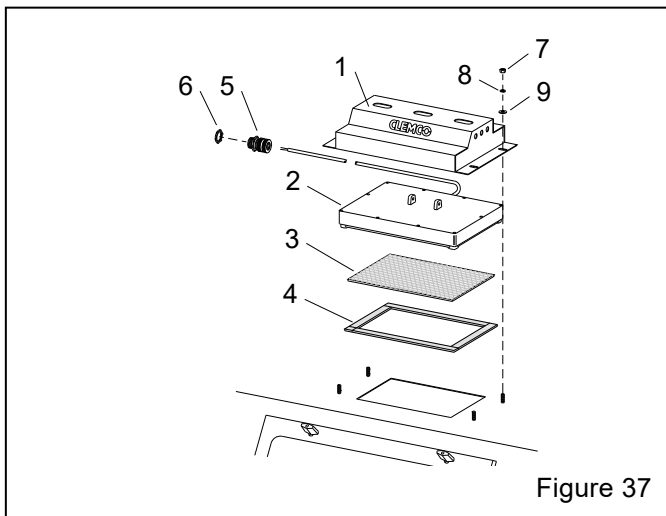

Figure 37
9.6 LED Light Assembly – Figure 37